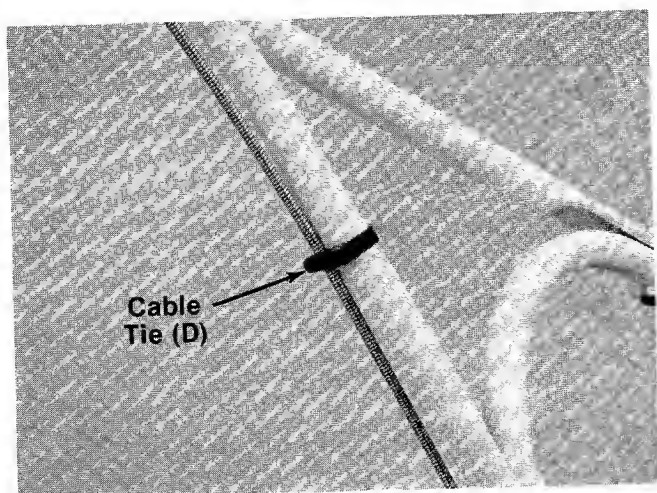

FIGURE 7.
11. Secure throttle control wire to handle with two cable ties (D) provided in hardware pack. See figure 7.
12. Slip hand grips (H) on the upper end of each handle. They will slip on more easily if you first soak them in warm, soapy water.